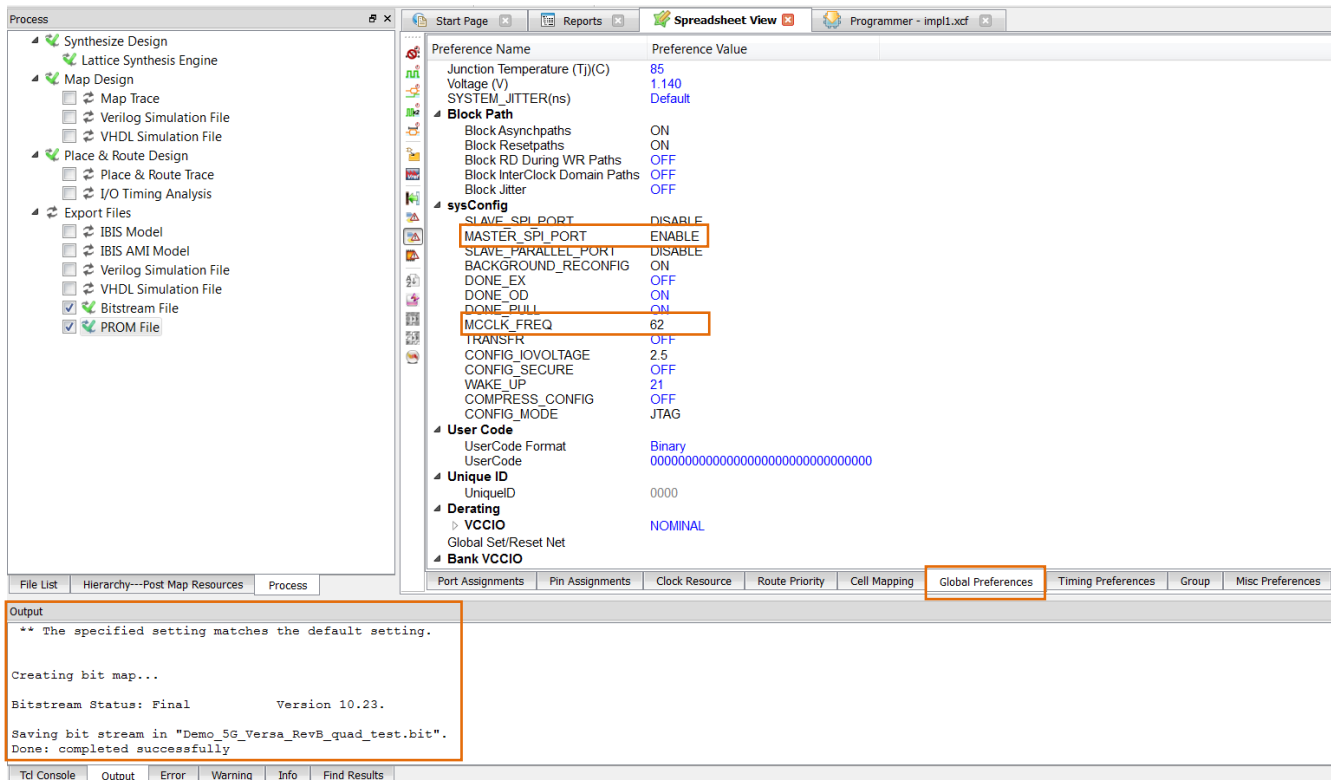

Figure 4.3. Global Preferences Tab
- In Spreadsheet View, go to the **Global Preferences** tab, shown in Figure 4.3, to edit the configuration settings of the device. Select the options below to enable the Master SPI port of the ECP5/ECP5-5G device. Save these settings.
- In the **Process** pane, make sure that the **Bitstream File** option is checked and generate the bitstream by double clicking **Export Files**. You can verify the operation in the **Output** pane also shown in Figure 4.3.